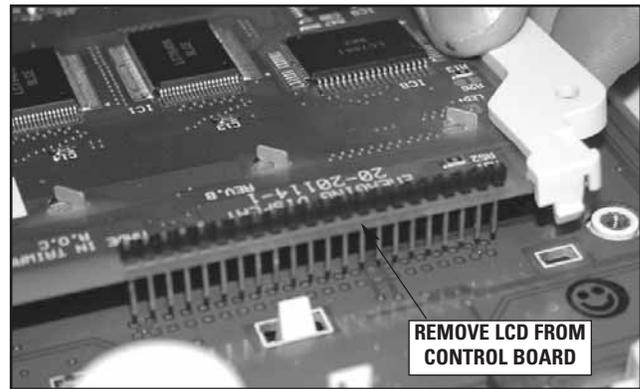

FIGURE 6.18
6. Carefully remove the LCD from the Control Board being careful not to damage the LCD connector pins. See Figure 6.18.
2. Place LCD Display over Control Board and align the LCD Connector pins with the top row on the Control Board LCD Connector. See Figure 6.18.